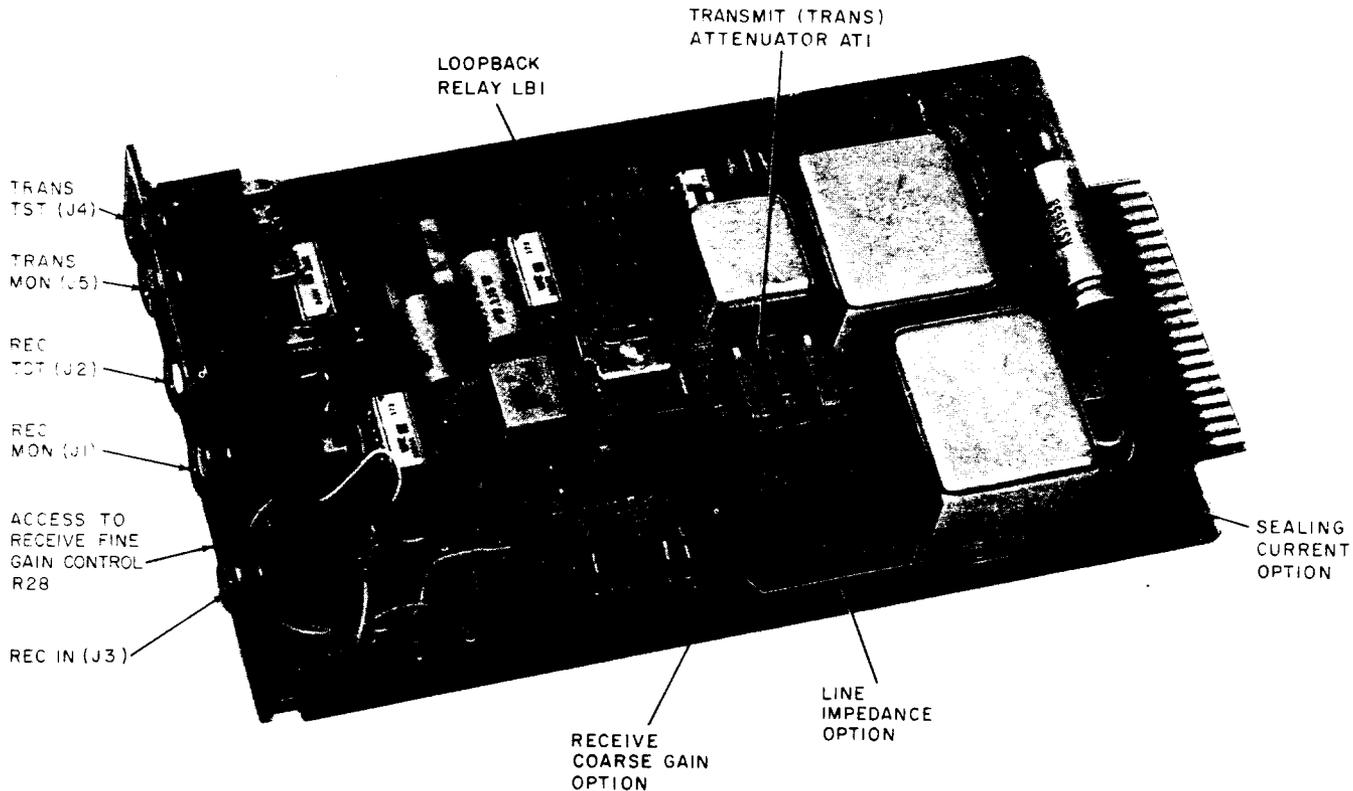

Fig. 3—DAS 829B-L1
2.06 Three line termination impedances are provided on the DAS 829B-L1. The straps, used in providing line termination, should be placed in either the 150-, 600-, or 1200-ohm position. The required option should be specified on the service order. Refer to Fig. 3 for the location of these straps.